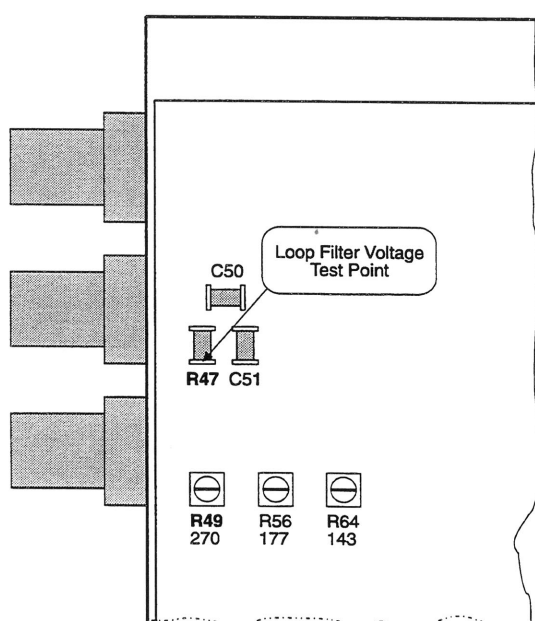

Fig. 2-3 Serial Digital RX VCO Adjustment
- Slowly adjust R49 clockwise until stable video reappears. Measure and note the LOOP FILTER VOLTAGE appearing on pin 1 of R47 (Fig. 2-3).